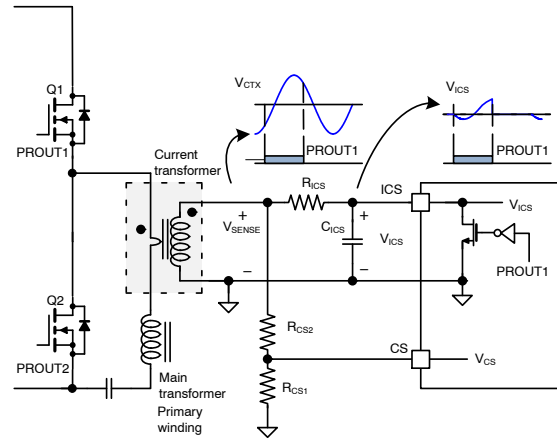
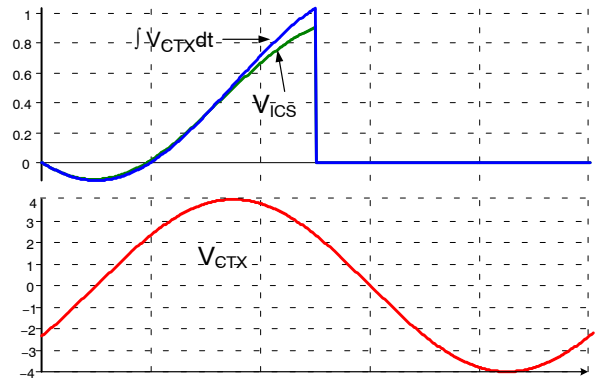
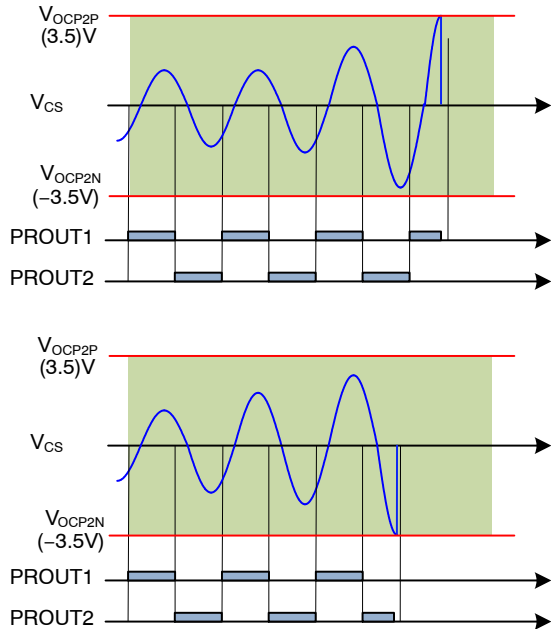

Figure 61. Current Sensing of NCV4390
Figure 62. Disable PWM mode with COMP Voltage
Figure 66. Over-Current Protection of the CS Pin
NCV4390 senses instantaneous switch current and the integral of the switch current as illustrated in Figure 61. Since NCV4390 is located in the secondary side, it is typical to use a current transformer for sensing the primary side current. While the PROUT1 is LOW, the ICS pin is clamped at 0 V with an internal reset MOSFET. Conversely, while PROUT1 is high, the ICS pin is not clamped and the integral capacitor ( $C_{ICS}$ ) is charged and discharged by the voltage difference between the sensing resistor voltage ( $V_{SENSE}$ ) and the ICS pin voltage. During normal operation, the voltage of the ICS pin is below 1.2 V since the power limit threshold is 1.2 V. The current sensing resistor and current transformer turns ratio should be designed such that the voltage across the current sensing resistor ( $V_{SENSE}$ ) is greater than 4 V at the full load condition. Therefore the current charging and discharging  $C_{ICS}$  should be almost proportional to the voltage across the current sensing resistor ( $V_{SENSE}$ ). Figure 62 compares the VICS signal and the ideal integral signal when the amplitude of  $V_{SENSE}$  is 4 V. As can be seen, there is about 10% error in the VICS signal compared to the ideal integral signal, which is acceptable for most designs. If more accuracy of the VICS is required, the amplitude of  $V_{SENSE}$  should be increased.
2. Over-Current Protection (OCP2): When  $V_{CS}$  is higher than 3.5 V or lower than -3.5 V, over-current protection (OCP2) is triggered. The instantaneous primary side current is also sensed on CS pin. Since the OCP2 thresholds on the CS pin are 3.5 V and -3.5 V as shown in Figure 66, the CS signal is typically obtained from  $V_{SENSE}$  by using a voltage divider as illustrated in Figure 61. 150 ns debounce time is also added for OCP2